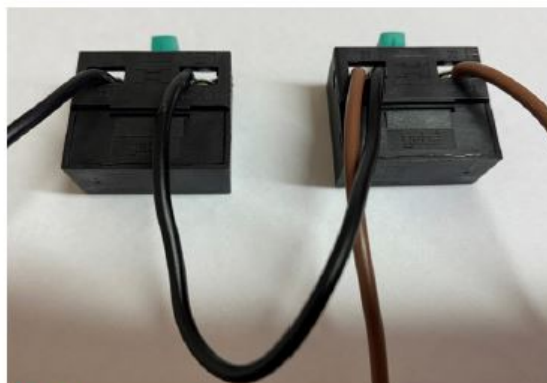
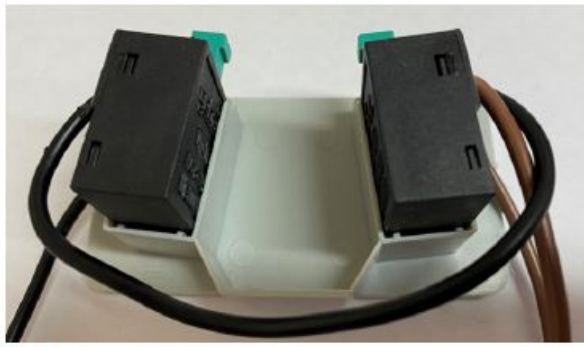

fig.2
fig.3
5. Connect the Key Switch terminal wiring according to fig.2 and fig.3.
3. Remove plastic connector with switch terminals in (fig.2) and then drill holes in the bottom of the key switch case to allow the wires to be inserted, (1) motor wire (2) power wire (3) safety brake if supplied.
5. Key switch terminal wiring (fig.2 & fig.3);